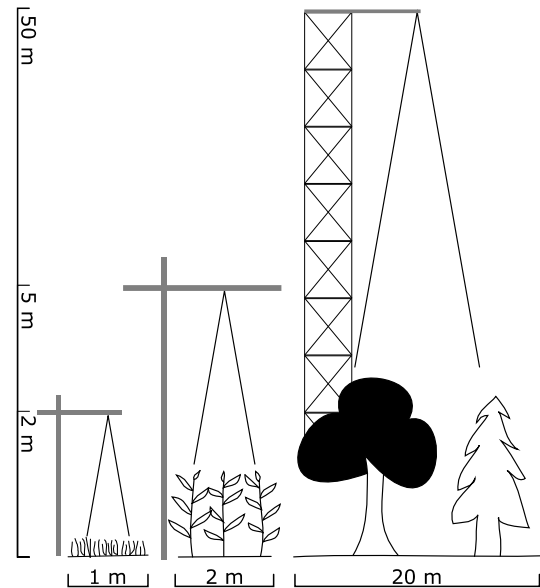

Figure 1 Typical tower setups for grass, corn and forest with reasonable size estimations based on working setups. Drawing not to scale.
Figure 1 The RoX rugged case is based on the waterproof 1200 Pelicase®. The dimensions are the extents of the case. Note that the fibers (1) should not be removed and thus increase the dimensions for shipment. At the front panel, the main power socket (2) is next to the On/Off Button (3).
Prior to setup the RoX over a canopy, considerations about the homogeneity inside the field of view are essential. A low vegetation type (e.g. grass) with a homogenous pattern yields useful data from low observation heights. Larger, more coarse vegetation (eg. corn or shrubs) or even forest will require a larger field of view, thus a higher observation position. The opening angle of the downward looking fibre is 23° which leads to recommendations given in Fig 1. Further, consider that the 3D canopy architecture or rows of managed vegetation (e.g. vineyards) can have a significant effect on the diurnal pattern of the retrieved reflectance signal. The tower itself should be placed north of the field of view to eliminate shadows of the structure inside the observed vegetation. A nadir setup reduce these effects and generates measurements comparable to airborne, satellite and other instruments.
Figure 1 Typical spectral data as stored in the RoX measurement file. The spectra show the upward and downward looking channel raw data (counts) and the recorded dark current for each channel.
The spectral data inside the measurement files is raw data, thus digital counts are stored. To convert these digital counts to actual physical values (eg. radiance) and to calculate fluorescence or other results, a post-processing is required (see *POST PROCESSING*). Most users are interested in the processed products, however the structure and content of the data files is explained in the following. One measurement cycle is stored within 6 lines, whereas the first line is the header containing metadata. In line 2-6, the spectral data is given in the order: 1 upward looking (WR1), 2 downward looking (VEG), 3 upward looking (WR2), 4 dark current of WR, 5 dark current of VEG. Since the upward looking and downward looking channels have different integration time to achieve an optimal use of the dynamic range, they may be affected by different dark currents. This is accounted for, by acquiring two dark current measurements with the two different integration times. Further the instrument measures twice the upward looking channel to quantify the stability of illumination during the measurement. The spectrometer stores 1024 pixels for each spectrum. A typical spectrum is given in Figure 1. The metadata within the header of each measurement contains essential data for processing, such as integration time or the actual time of the measurement. Further it contains